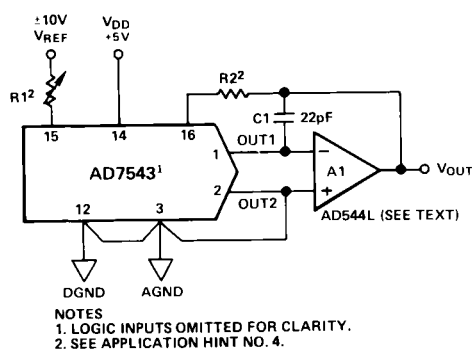
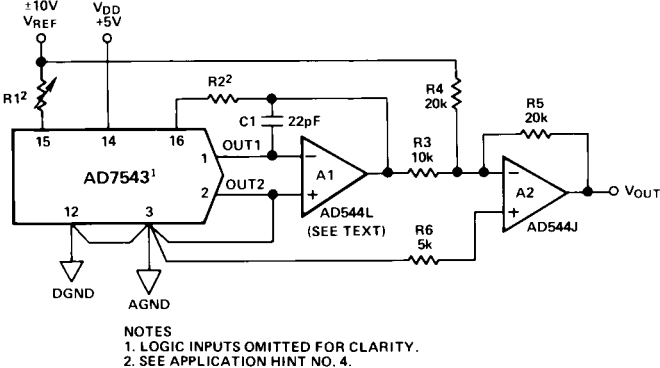

Figure 6. Unipolar Binary Operation (2-Quadrant Multiplication)
Figure 7. Bipolar Operation (4-Quadrant Multiplication)
Gain is defined as the ratio of the DAC's Full Scale output to its reference input voltage. An *ideal* AD7543 would exhibit a gain of $-4095/4096$. Gain error is adjustable using external trims as shown in Figures 6 and 7.
Register B can be asynchronously reset to 0000 0000 0000 by bringing CLR momentarily LOW. This allows the DAC output voltage to be set to a known condition, thus simplifying system initialization procedure. When operating the AD7543 in the unipolar circuit of Figure 6, a CLEAR causes the DAC output voltage to equal 0V. When using the bipolar circuit of Figure 7, a CLEAR causes the DAC output to equal $-V_{REF}$.
Figure 6 shows the analog circuit connections required for unipolar binary (2-quadrant multiplication) operation. The logic inputs are omitted for clarity. With a dc reference voltage or current (positive or negative polarity) applied at pin 15, the circuit is a unipolar D/A converter. With an ac reference voltage or current (again of + or - polarity) the circuit provides 2-quadrant multiplication (digitally controlled attenuation). The input/output relationship is shown in Table III.
Table III. Unipolar Binary Code Table for Circuit of Figure 6
Figure 7 and Table IV illustrate the circuitry and code relationship for bipolar operation. With a dc reference (positive or negative polarity) the circuit provides offset binary operation. With an ac reference, the eleven LSBs provide digitally controlled attenuation of the ac reference while the MSB provides polarity control.
Table IV. Bipolar Code Table for Offset Binary Circuit of Figure 7
4. **GAIN TEMPERATURE COEFFICIENTS:** The gain temperature coefficient of the AD7543 has a maximum value of 5ppm/°C and a typical value of 2ppm/°C. This corresponds to gain shifts of 2.0LSBs and 0.82LSBs respectively over a 100°C temperature range. When trim resistors are used to adjust full-scale range as shown in Figures 6 and 7 the temperature coefficient of R1 and R2 should be taken into account. It may be shown that the additional gain temperature coefficients introduced by R1 and R2 may be approximately expressed as follows:—